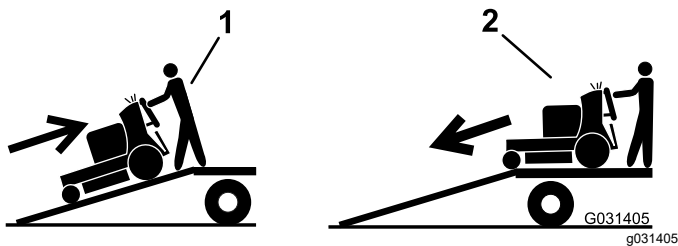

Figure 30
- If the attachment is not installed, load the machine with the rear up the ramp (Figure 30).
2. Drive the machine forward down the ramp (Figure 30).